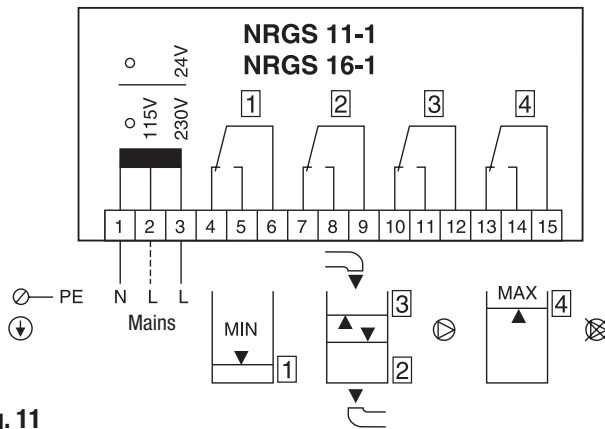

Fig. 11
1. Check whether the system has been wired according to the wiring diagram. **Fig. 11**